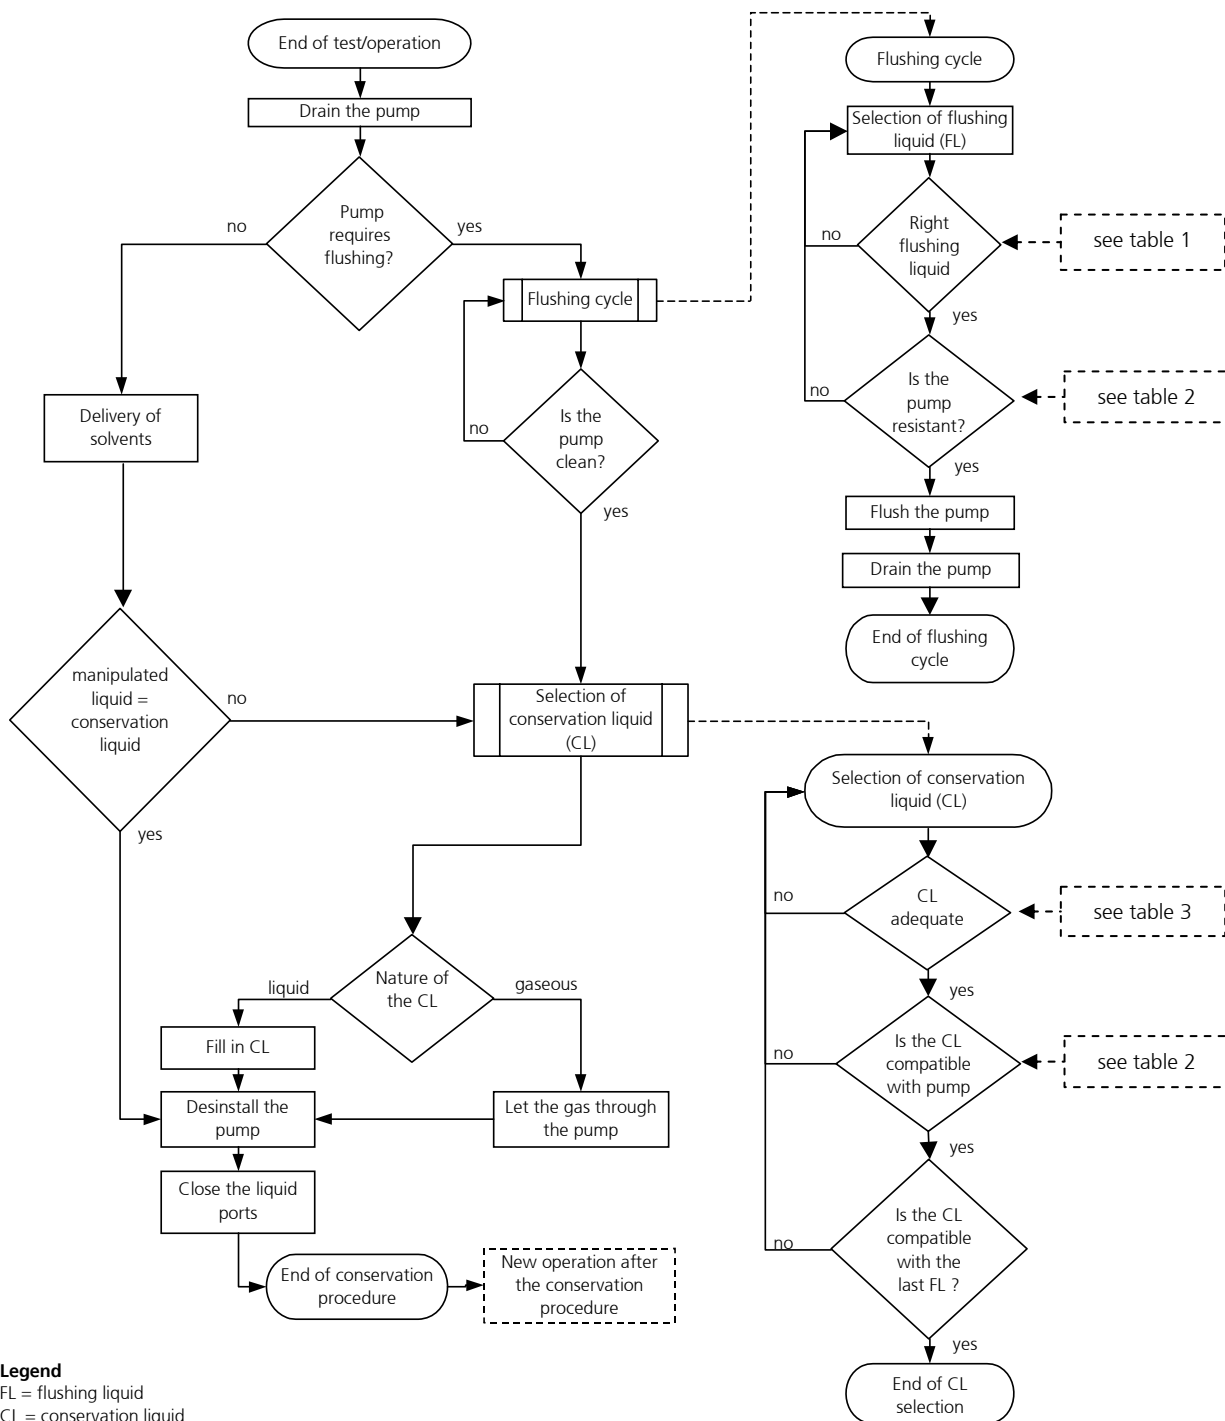

figure 2 Diagram of the shutdown procedure
*Remark:* This diagram is repeated as a part of the figure 2 (shutdown procedure of the micro annular gear pump).